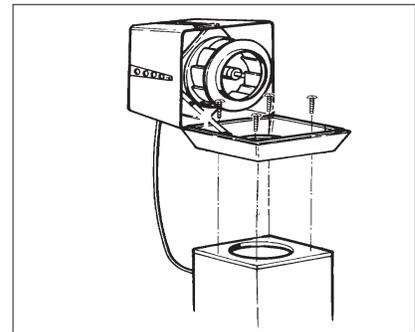

Fig. 3
- If the fan is supplied with a curb cap, secure the cap to the roof curb with self-tapping sheet metal screws (see fig. 3).